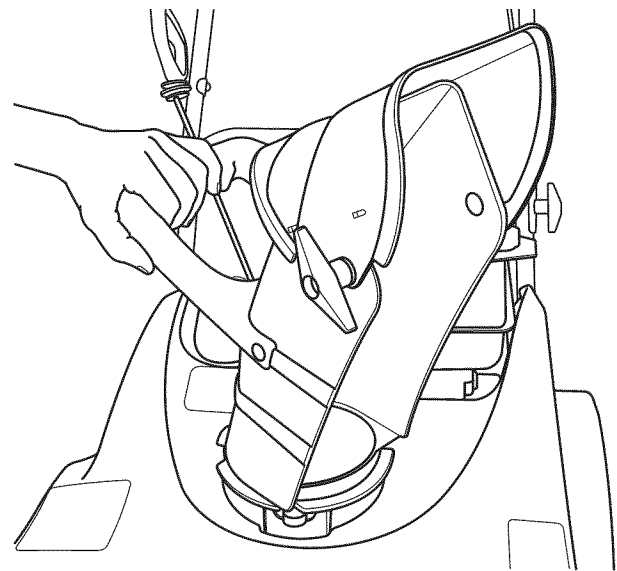

Figure 4
- Align the discharge chute onto the unit (see Fig.4).